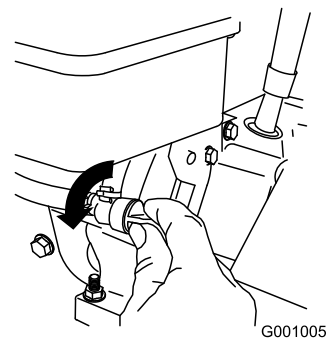

Figure 23
3. Rotate the fuel shutoff valve counterclockwise to open it (Figure 23).